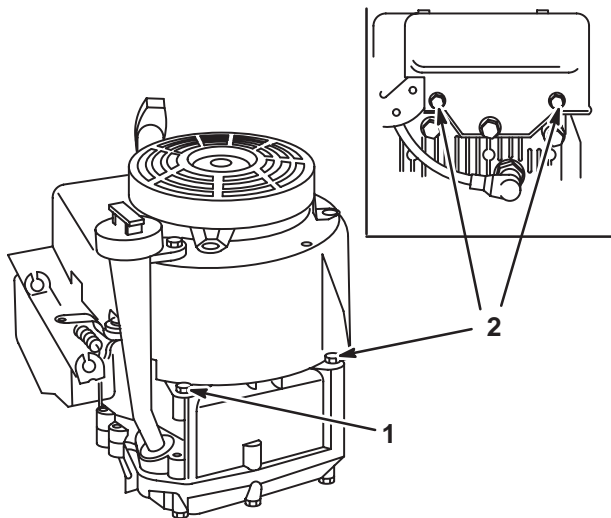

Fig. 82 – Installing Blower Housing
1. Place blower housing on engine and start one (1) screw in extruded hole.
2. Hold blower housing with extruded hole in recess of cylinder block, Fig. 82.